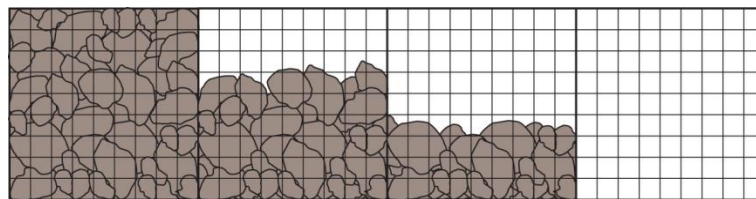

Figure 5 – Stepping down the fill at the end to avoid distortion
21. If a complete run of facing units is not positioned and/or filled in one phase, then always step down the filling at the end otherwise facing unit distortion will occur. This also allows further facing units to be connected later (refer to Figure 5). At no time try to completely fill one cell at a time, unless the unit has internal bracing in both directions.